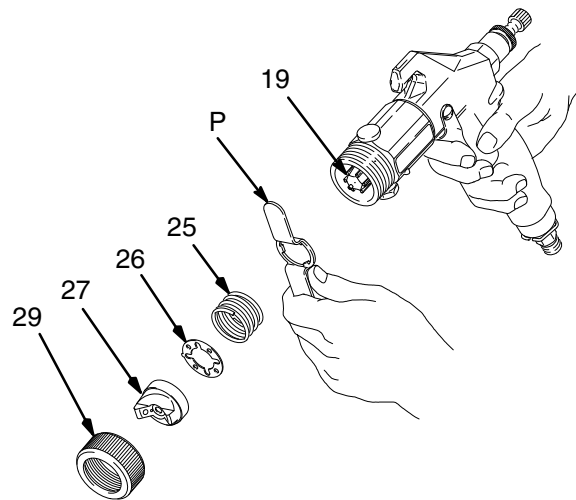

Fig. 26
2. Remove the air cap retaining ring (29), air cap (27), spring (25), and detent plate (26). See Fig. 26.
3. Trigger the gun while you remove the fluid nozzle (19) with the nozzle wrench (P). See Fig. 26. Clean the gun as instructed on page 13.